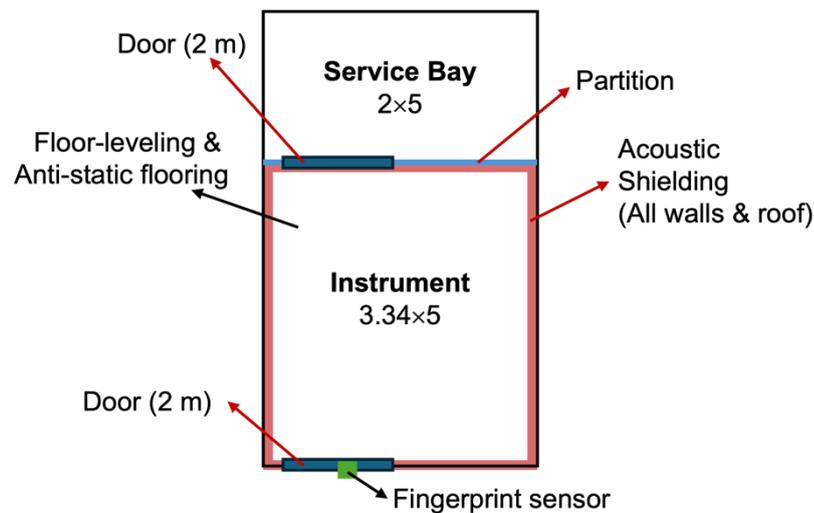

Figure 2. Layout of Room 1 (Ground Floor, D052)
B. Room 1 (Ground Floor, D052) – Diagram in Figure 2